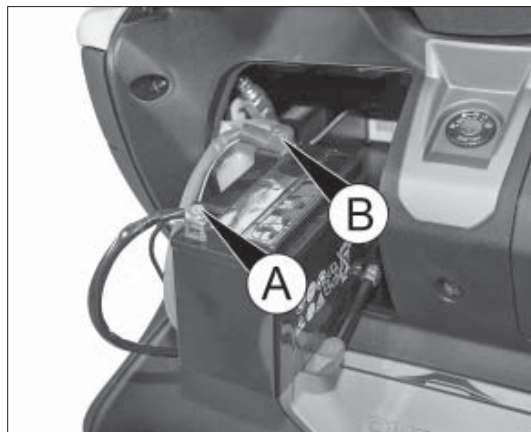

fig. 10
- disconnect terminal A fig. 10 (negative) from the battery, then terminal B (positive) To reinstall the battery perform the same procedure in reverse, ensuring you first connect terminal B fig. 10 (positive), followed by the negative terminal A fig. 10.